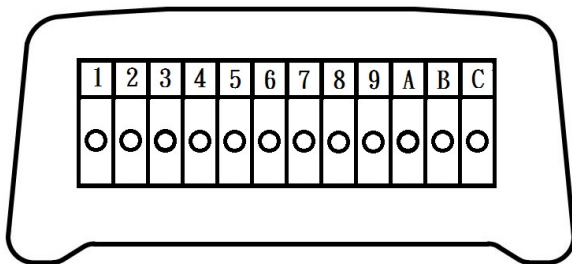
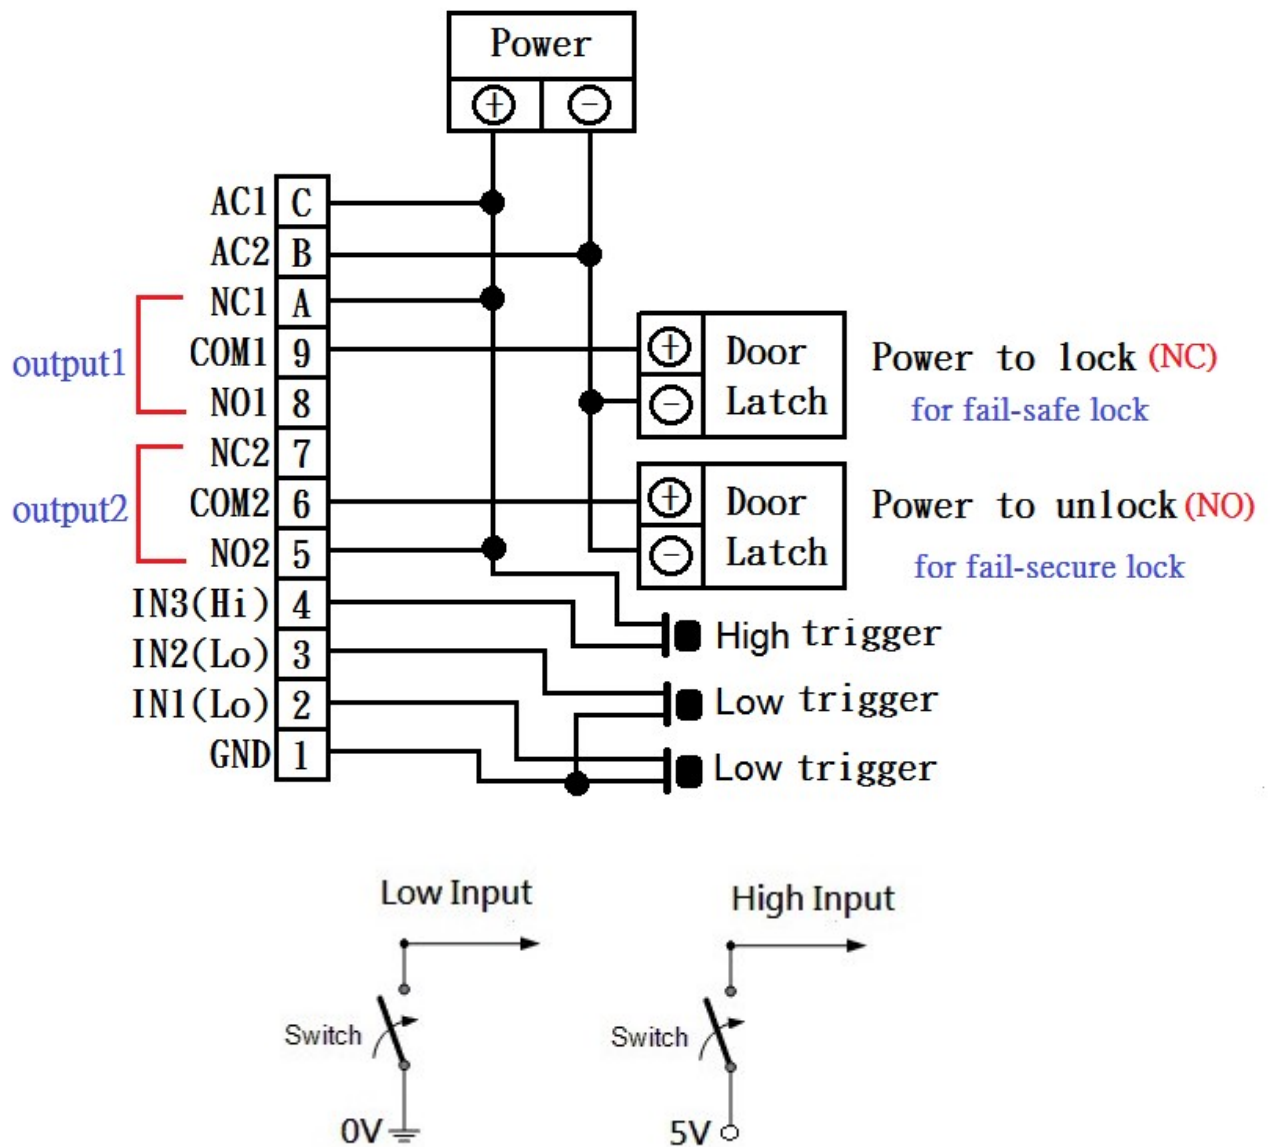

Fig2
Fig3
5.3 WIRING DIAGRAM (Fig2 & Fig3)